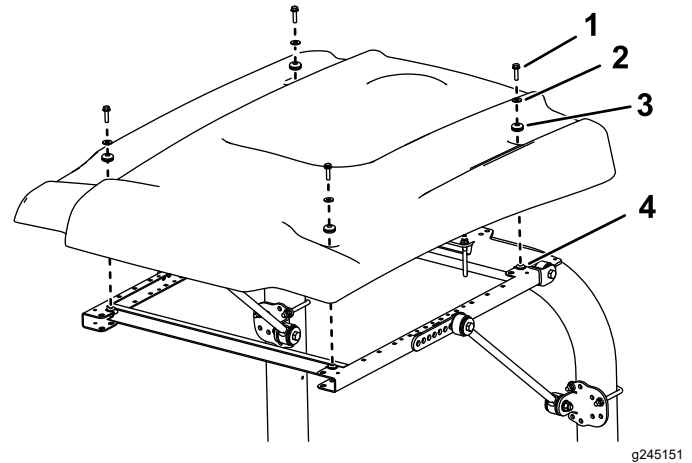

Figure 6
- While aligning the mounting holes, position the sunshade onto the frame as shown in Figure 6.
- Loosely mount each corner of the sunshade to the frame with a flange-head bolt (5/16 x 1 inch), a small washer, and a grommet (Figure 6).